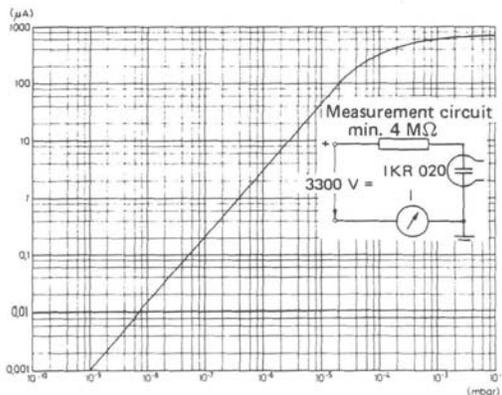

Fig. 5 IKR 020 characteristic curve
It is supplied with a stabilized direct voltage of 3.3 kV. The current is limited by the measurement circuitry to approx. 700 µA according to Fig. 5. The special design avoids glow discharge breakdown throughout the whole measuring range. The measurement current is stable, virtually inertia free and reproducible within narrow limits. Short operating times at high pressures or inrushes of air do not affect the function of the IKR 020. The gauge head can be disassembled for cleaning purposes. Calibration is restored after short operation.
4. Compare with ionization gauge head as per curve sheet Fig. 5.